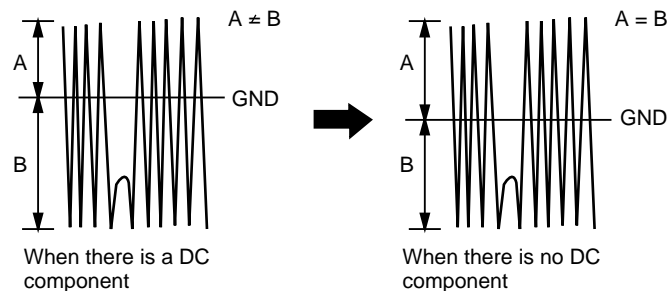

Fig. 14
• Measurement instrument connections	Oscilloscope to CN104, Pin-3 (TE) via a low pass filter. (HEAD BOARD assy) See Fig. 14 below. GND probe can be connected to CN104, Pin-4 (AGND). [Settings]: 50 mV/div., 5 mS/div., DC mode